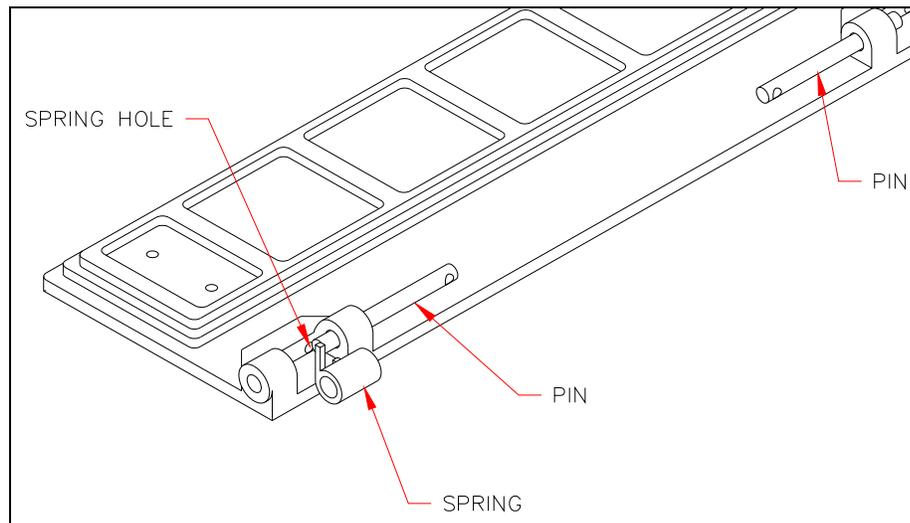

Figure 9-6 Reinstalling the Door
- 3 To reassemble the door, partially insert 2 M3 x 32mm spring pins into the door. Then insert the 2 torsion springs into the hinge recess with its L-shaped leg in the spring hole and engage the pins to hold the springs (Figure 9-6).